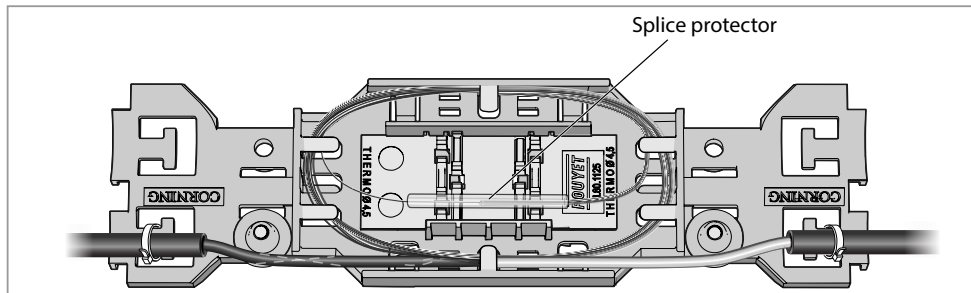

Figure 11 Splice protector mounted in a splice tray
Step 7: The inner tray will hold up to 36" of ribbon or loose tube fiber. To cut to length, route fiber to the position in Figure 11, pull fiber 1/2" forward and cut, prepare, and fusion splice the fiber ends. Place splice protector over splice and place in heatshrink oven when splice is complete. After splice protector is fully melted, allow time for it to cool down before moving.